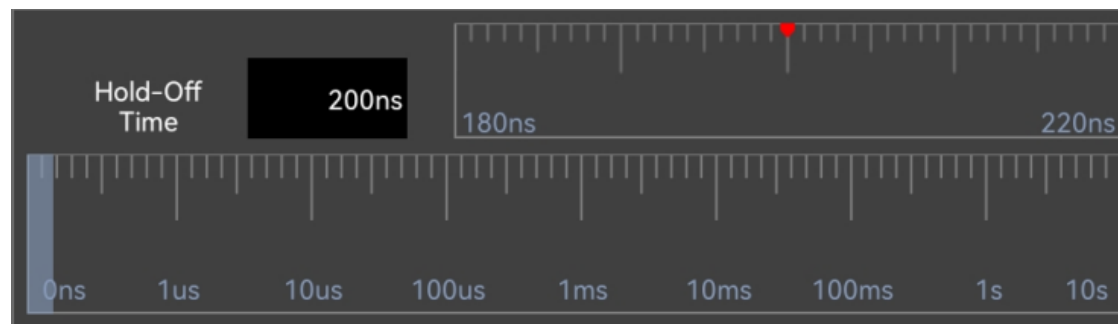

Figure 5-10 Trigger Hold-Off Time Set Interface
- 1) Tap “Trigger” on the main menu to open the trigger menu. Under “Common”, tap the box after “Rejection Time” to open the hold-off time adjustment interface. The trigger time is displayed on the upper left, the fine adjustment time scale is displayed on the upper right, and the coarse time scale is displayed below, as shown in Figure 5-10.